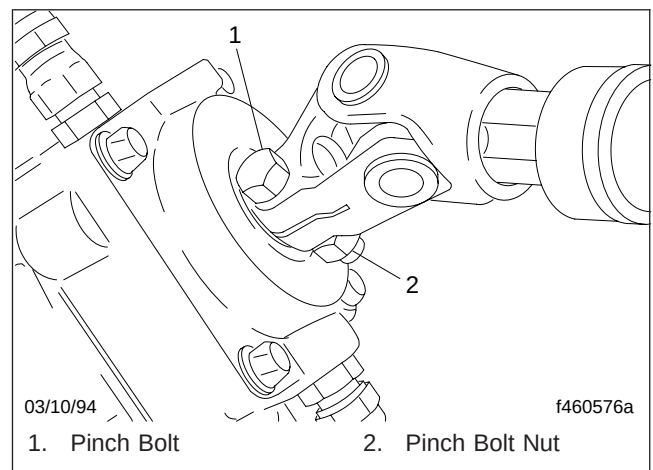

Fig. 3, Pinch Bolt Installation
7. Using a pinch bolt and nut, attach the steering driveline to the input shaft but do not tighten the nut. See Fig. 3.